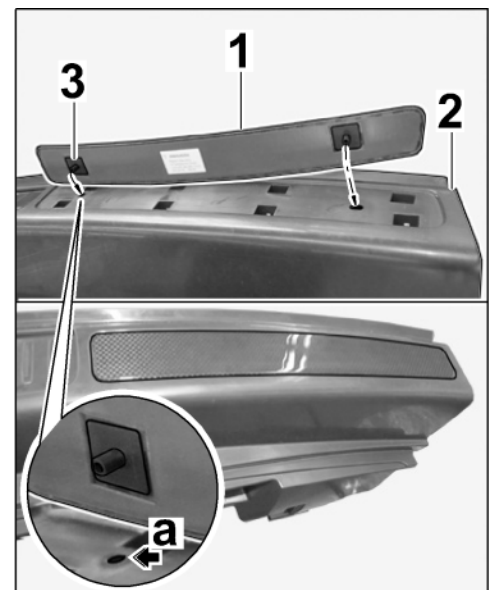

Figure 28
4.2 Install new carbon-fiber composite trim in lock carrier cover (⇒ *Figure 28*).
4.2.2 First move the guide pin at the right into the bore hole (⇒ *Figure 28* -**arrow a**-) and then position the trim in the slot.